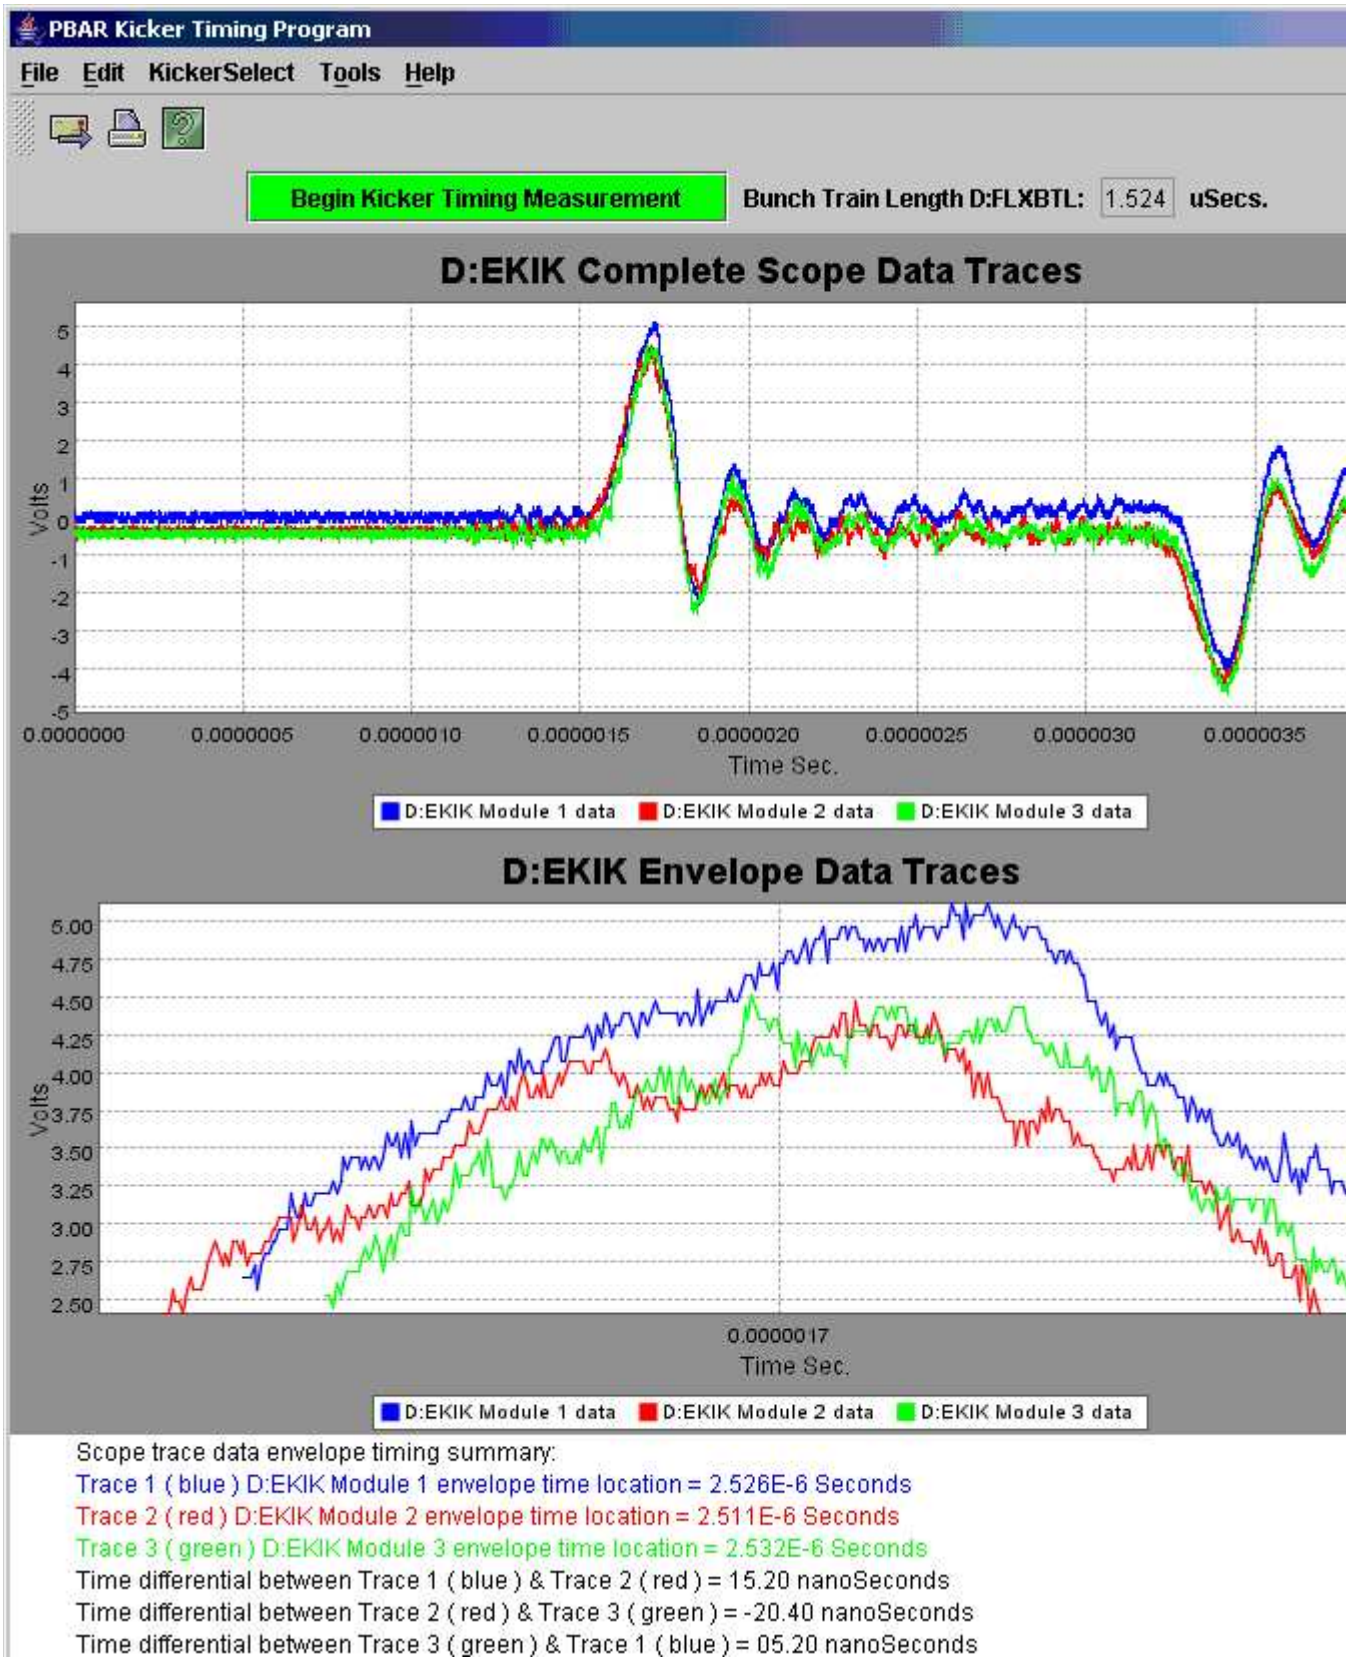

Figure 30: The Pbar Kicker Timing Program shows the Debuncher Extraction Kicker scope traces. Comparing the results of this display with that of
8. Examine the Pbar Kicker Timing application (see Figure 30) to see if the kicker trace alignment is converging. Click on the green box that is labeled "Begin Kicker Timing Measurement."